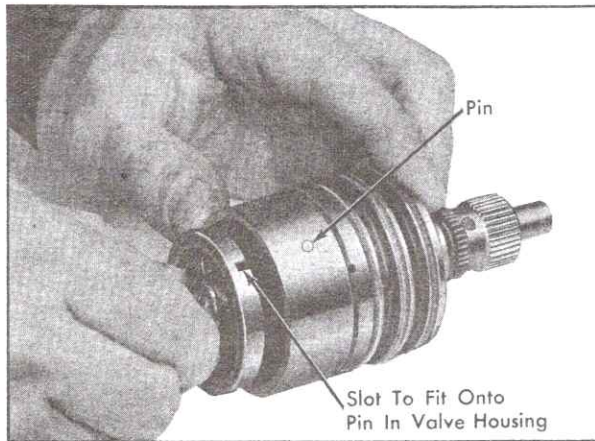

Fig. 9-32 Installing Stub Shaft in Valve Body
3. Assemble stub shaft in valve body, aligning groove in valve cap with pin in valve body, Fig. 9-32. Tap lightly on cap with a plastic or rawhide mallet until cap is against shoulder in valve body with valve body pin in cap groove. Hold these parts together during the rest of the assembly.